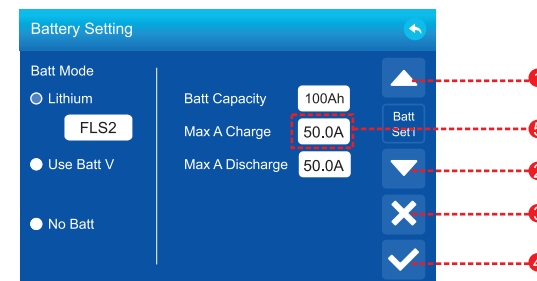

Figure 5.2-1 Battery Setting
**Button Instructions:** As shown in Figure 5.2-1. Press the Up key (or click ①) can go to the previous setting page. Press the Down key (or click ②) can go to the next setting page. If want to set The MAX Charge current number, click ⑤ then press the Up/Down key to Add/Subtract the number, press the Enter key (or click ④) to confirm the number. Press the Esc key (or click ③) to exit setting mode.